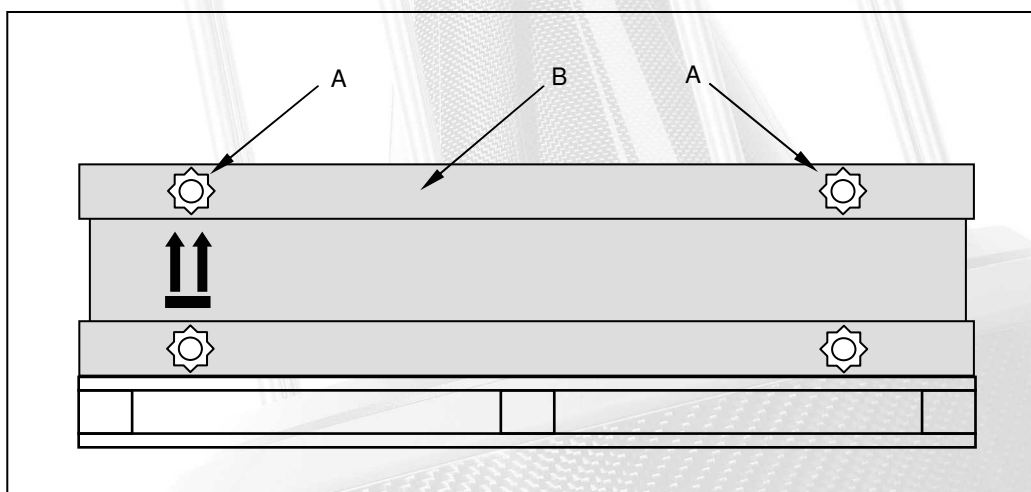

Figure 1. Carbon Mk IV Shipping Carton
The Carbon Mk IV is supplied with each loudspeaker packed in a separate shipping carton. This must be kept upright as shown in figure 1. Before opening the carton, please inspect it for damage. If you see any damage, please contact the supplying audio dealer immediately and provide them with a full description of the damage. Do not attempt to unpack the loudspeakers until you have spoken with the dealer and have been advised how to proceed.
1. Referring to figure 1, unscrew and remove the four securing screws A from the top cover of the carton B and then lift off the top cover. Do not remove the four screws from the carton lower tray.